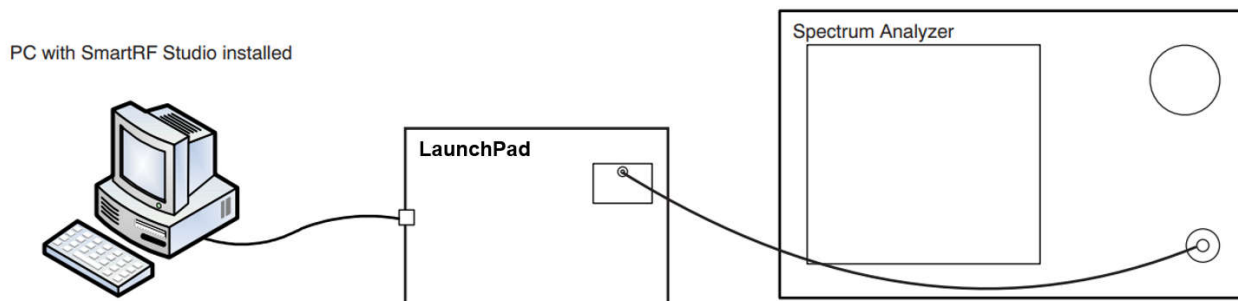
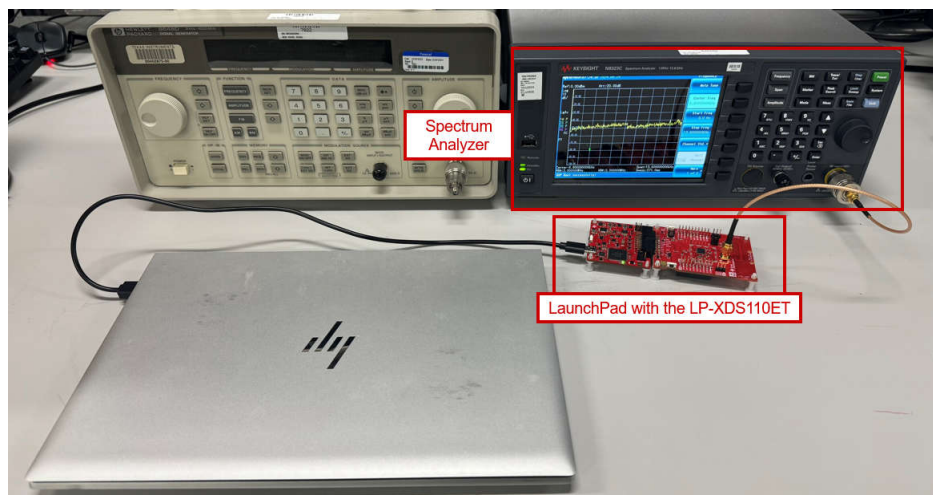

Figure 6-1. High Frequency Clock Tuning Setup Diagram
Figure 6-2. High Frequency Clock Tuning Bench Setup
- Step 1: Connect the instruments as shown in Figure 6-1 and Figure 6-2.